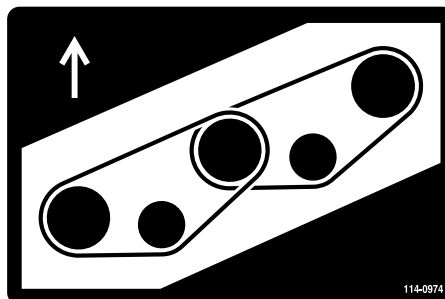

**Figure 83**
- 6. Route the new belt around the spindle pulleys and idler pulley assembly as shown in Figure 83.